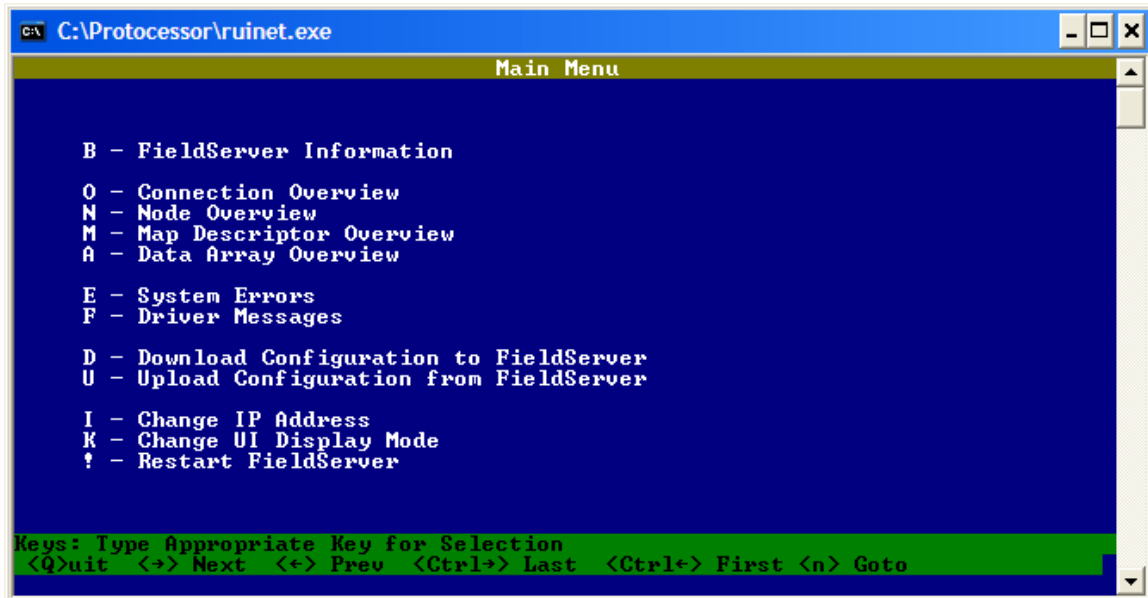

Figure 4 – RUI NET Main Menu
- 1) Connect a computer to the ProtoCessor using the RUI NET application. For instructions on connecting a computer to the ProtoCessor, see the document: “*Connecting a computer to the HeatNet™ Bridge*”. You should see the RUI NET Main Menu as shown in Figure 4.